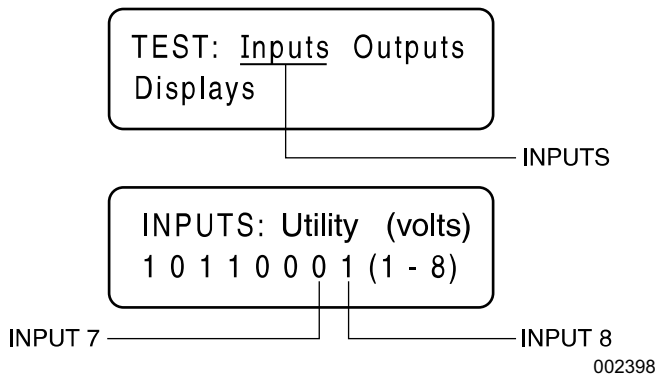

Figure 4-51. The Input Screens
1. See Figure 4-51. Navigate to the Input Screen using the menu system for the controller being worked on.